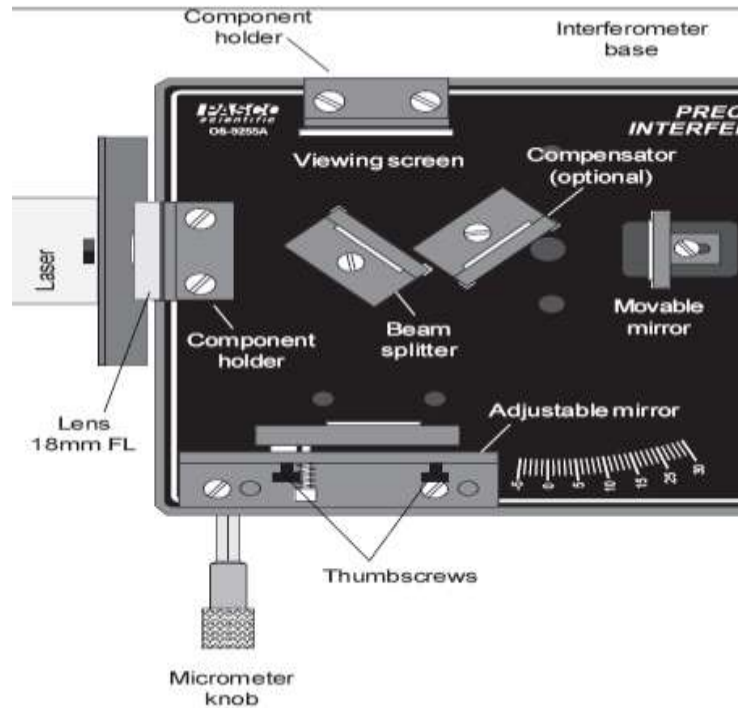

Figure 6.2. Michelson Mode Setup
2. Mount the adjustable mirror on the interferometer base. Position one component holder in front of the laser. see figure 6.2.